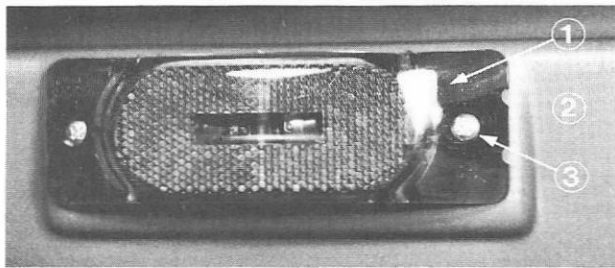

Fig. 52 ① Tail Light Lens ③ Screws
1. Remove the two screws on the outer lense (Figure 52) to remove the tail light from the tank cover.